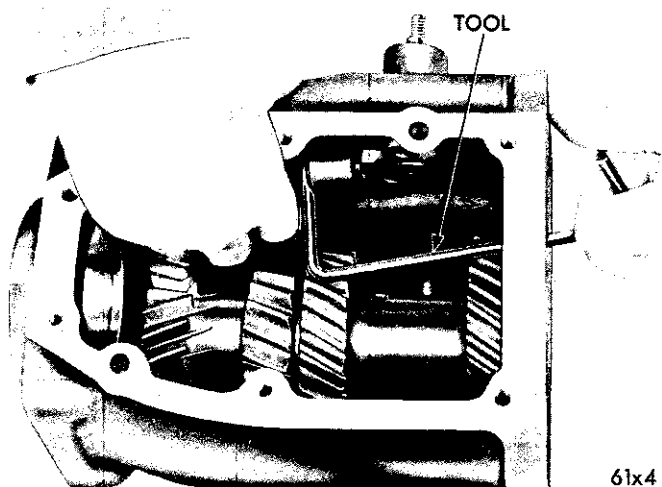

Fig. 7—Installing Detent Balls (Using Tool C-3765)
(4) Place the interlock parts in position in the case in the following order: ball, sleeve, spring, pin and ball.
(5) Enter the low and reverse lever shaft in the case bore, and while using detent ball installer Tool C-3765 (Fig. 7), to depress the detent ball against spring tension, push the lever shaft firmly into position so it prevents the detent ball from escaping.
(6) Remove the detent ball installing tool.
(7) Install the low and reverse lever shaft lock